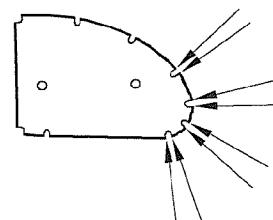

FIGURE 2: BUFF FLANGE EDGES
Step 3: Buff the edges of the A-1015 Nose Rib flanges as shown in Figure 2 on an abrasive wheel in order to minimize the tendency for them to appear faceted instead of curved.